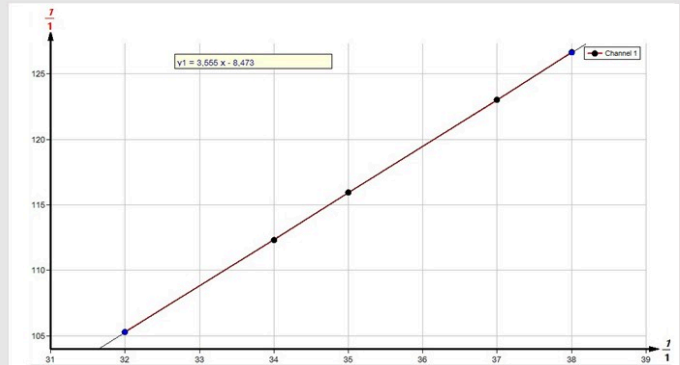

Fig. 9: Moseley diagram for the K-edge absorption.
Figure 9 shows the corresponding Moseley diagram. Equation (2) is converted in order to calculate the Rydberg constant R using the Moseley diagram:
Note: convert the energy values of the K-absorption edges from keV to eV before evaluating the straight line. From the slope of the regression line in Fig. 9, R is calculated: